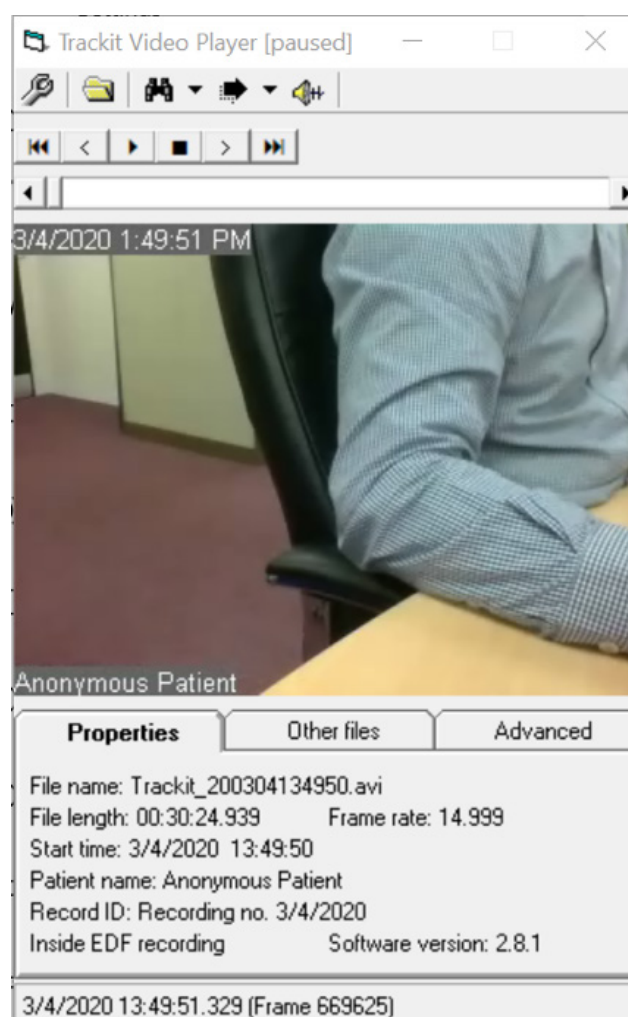

Figure 36: Video Playback
If video was recorded with the EEG recording, the associated video is opened with the EEG recording and is displayed on the top of the EEG data in a moveable window as shown in Figure 36. This video data is time-synchronised to the EEG data. Audio is played as well if recorded with the video.
- Properties: displays parameters for the currently opened file as shown in Figure 36.